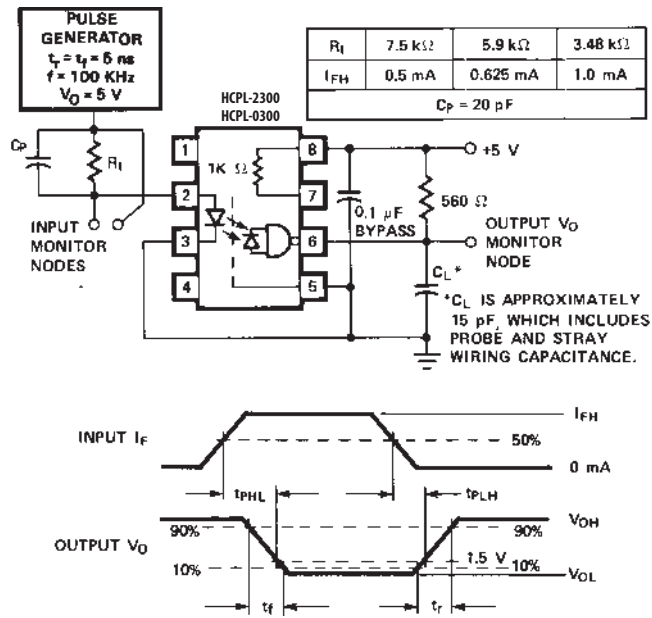

Figure 8. Test Circuit for t_{pHL} , t_{pLH} , t_r , and t_f .
8. C_p is the peaking capacitance. Refer to test circuit in Figure 8.